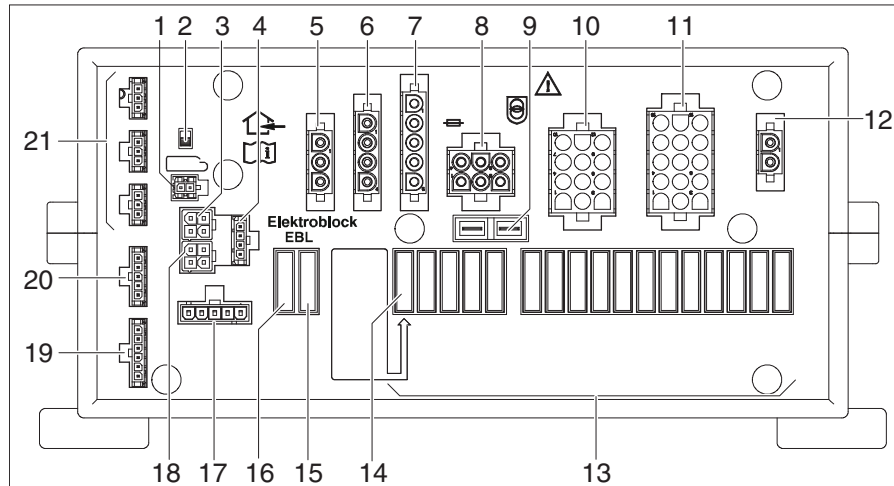

Fig. 243 Transformer/rectifier (EBL 402/403)
Location The transformer/rectifier EBL 402/403 (Fig. 243) is situated on the right in the rear garage.
- ▷ The battery cut-off switch (Fig. 243,2) disconnects all the appliances that are connected to the transformer/rectifier from the 12 V network.
- Turn the battery cut-off switch on and off (Fig. 243,2) three times in a row.